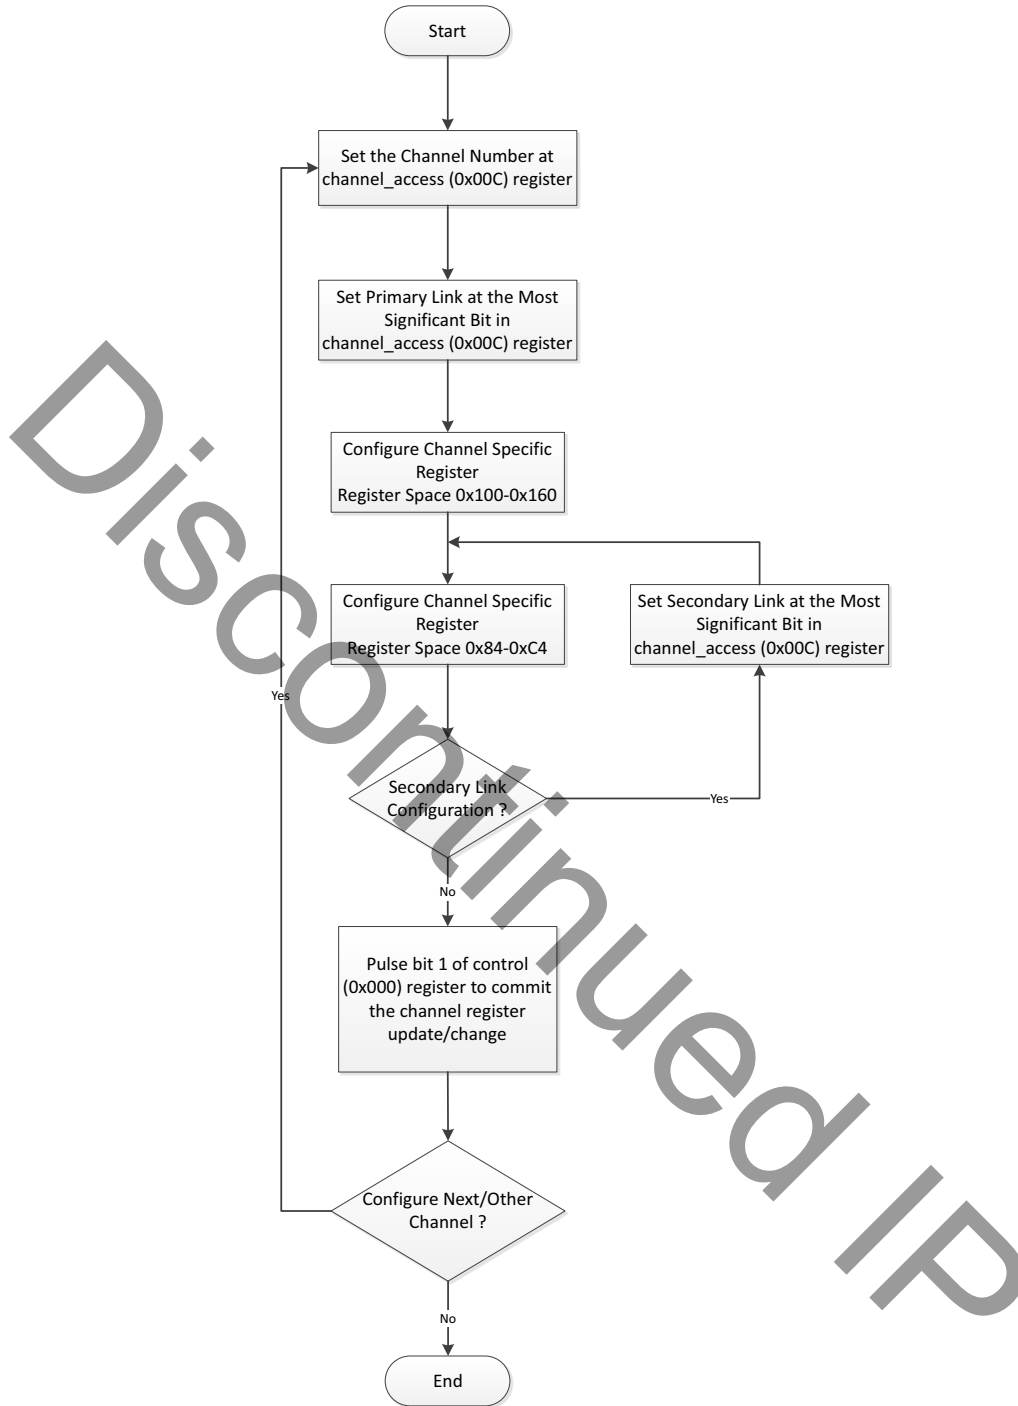

Figure 2-4: Register Configuration
5. Repeat step 1 through step 4 for another channel or registers or link configuration. See Figure 2-4.